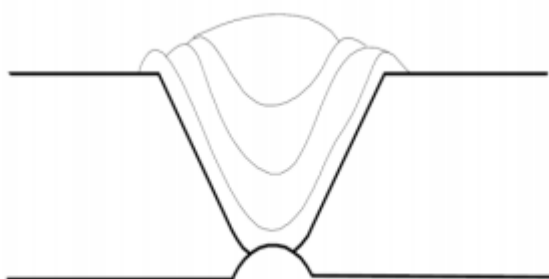

Fig 3. - Channel on material bottom side
- 12 Mill with low revolutions per minute (approx. 3000 min⁻¹) and low pressure a channel into material bottom side using a small multifunction rotary tool (Fig. 3).